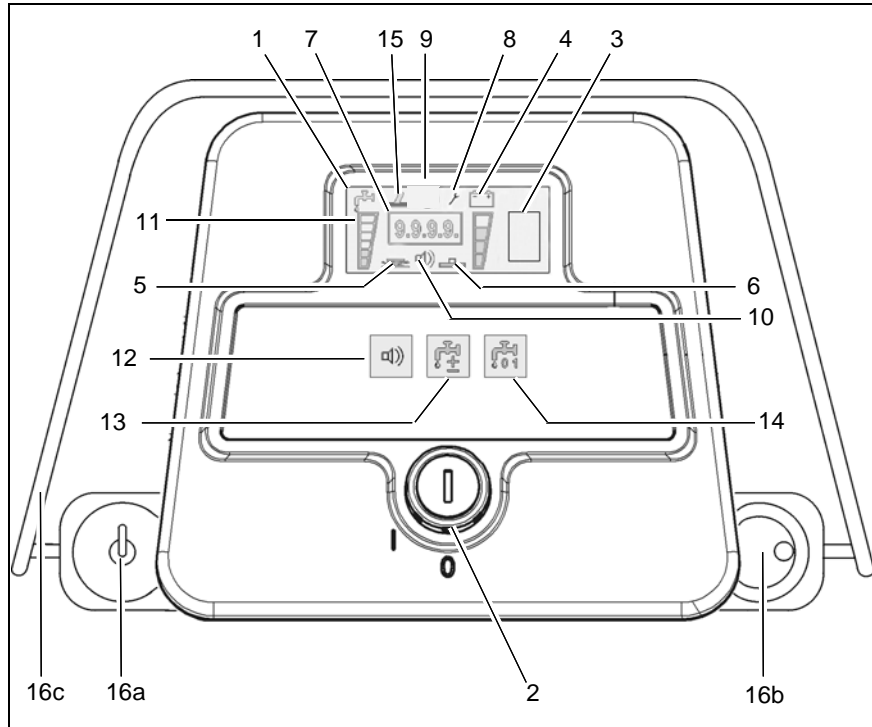

Abb.4
5. Use speed control knob (Fig.4/9b) to adjust work speed. Use the direction switch (Fig.4/9a) to select forward or reverse. Pull the bail handle (Fig.4/9c) to start moving.
Display (Abb. 4/1)
**Battery charge indication (Abb. 4/3)**
**LDS indicator (Abb. 4/4)**
**Symbol brush drive (Abb. 4/5)**
**Symbol vacuum motor (Abb. 4/6)**
**Hourmeter (Abb. 4/7)**
**Service indicator (Abb. 4/8)**
free (Abb. 4/9)
(Abb. 4/10)**
Solution flow symbol (Abb. 4/11)
(Abb. 4/12)**
Solution flow tip-switch (Abb. 4/13)
(Abb. 4/14)**
(Abb. 4/15)**
Drive direction control with speed control knob/bail handle (Abb. 4/16)